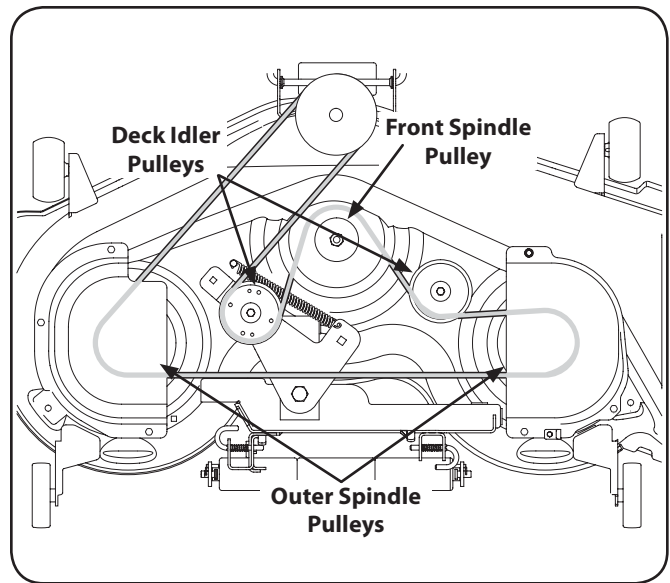

Figure 7-9
4. To place the new belt begin by routing the belt around the two outer spindle pulleys, then around the front spindle pulley as shown in Fig. 7-9.
5. Then route the belt around the two deck idler pulleys as show in Fig. 7-9.